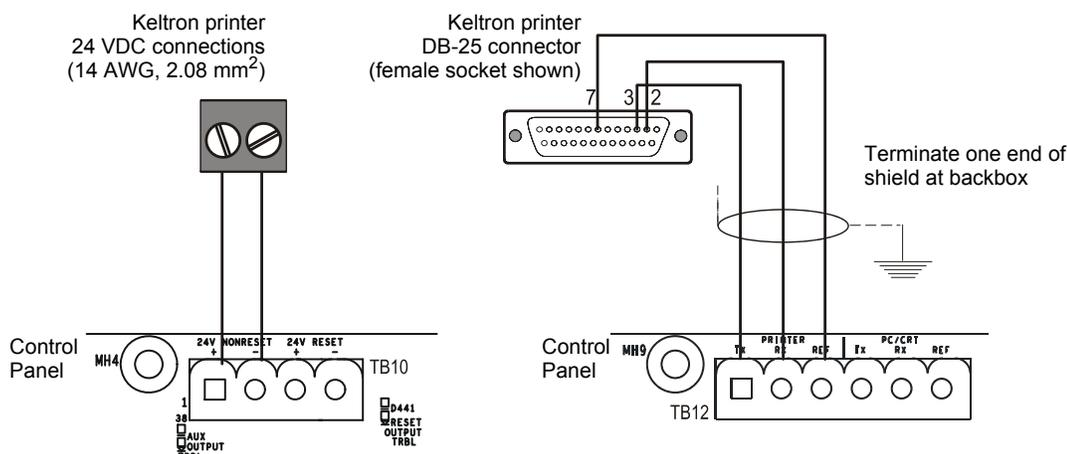

Figure 3.25 Keltron Printer Connections
1. Connect the three (3) open leads of the custom cable to the TB12 terminal block on the control panel as shown in Figure 3.25.
2. Connect DC power from TB10 terminal block on the control panel as shown in Figure 3.25.